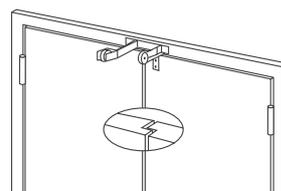

Figure 1. Gravity arm coordinator - example 1
- Grade 5: 50 000 test cycles: for all other door coordinator devices. Figures 1, 2 & 3.